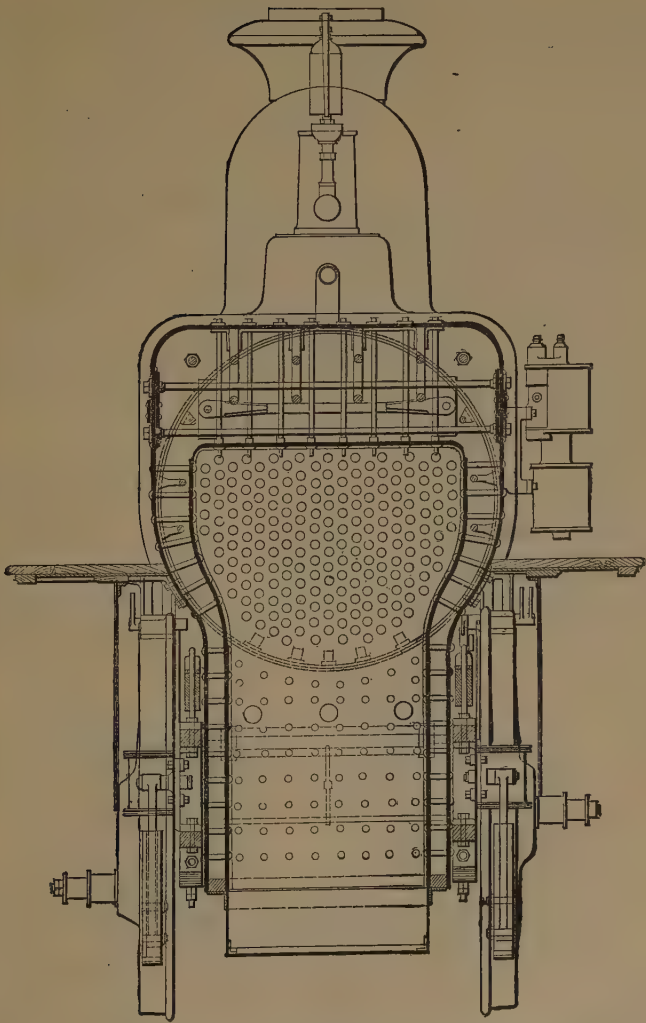

Fig. 50. Cross Section, Pennsylvania R. R. Engine, Class "O."
A. To a very slight extent their own stiffness; to a very great extent the stay-bolts, extending from the inside to the outside sheets. (See Fig. 50.)